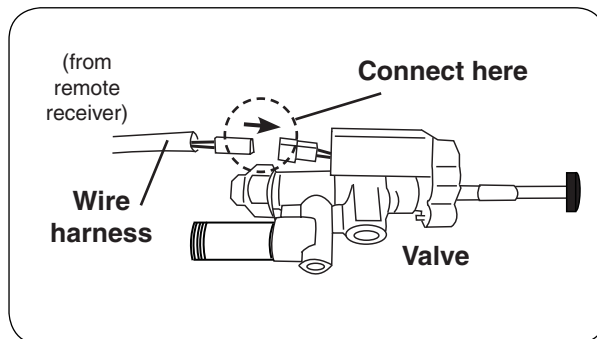

Fig. 10-1 Connect harness to valve
1. Discard the black wires that come with the remote receiver. Connect the valve wire harness to the valve as shown in Fig. 10-1.